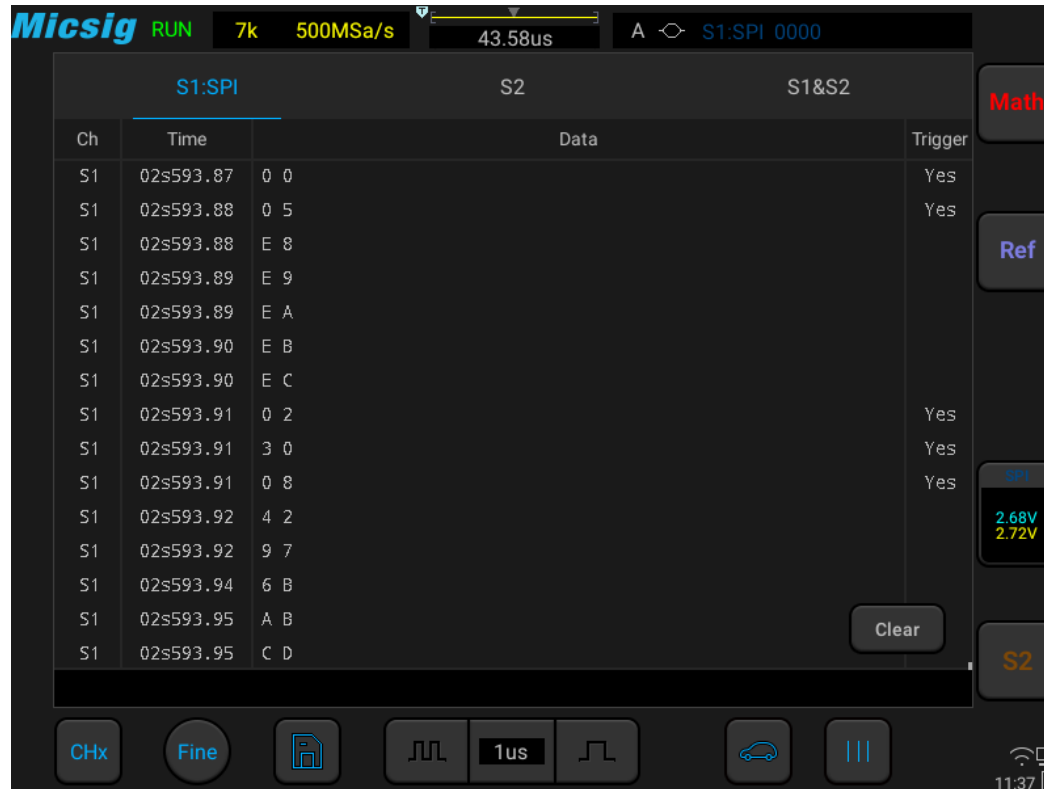

Figure 13-21 SPI Text Interface
**SPI text interface description, as shown in Figure 13-21:**
- (1) “Ch”: bus channel.
- (2) “Time”: Time intervals between the last frames to current frames.
- (3) “Data”: According to the data word length setting, the decode data is displayed. For example, if the data word length is 8bit, only one byte displays in the data column; if the data word length is 16bit, 2 bytes display in the data column; if the data word length is 24bit, 3 bytes display; and if the data word length is 32bit, 4 bytes display.
- (4) “Trigger”: “Yes” means the frame reaches trigger condition.